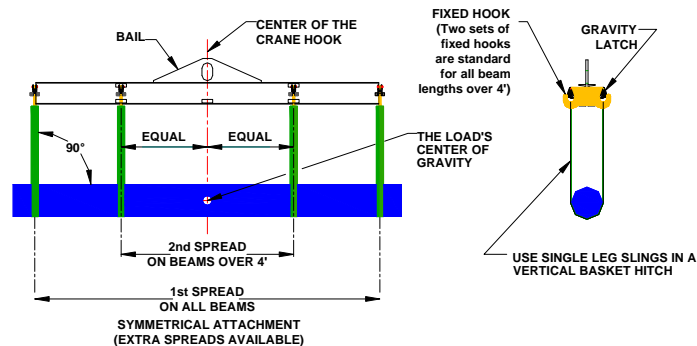

Figure 1
2. See **Figure 1**, Select slings, according to the sling's rated capacity (the rated capacity of the slings must be equal to or greater than the total of the beam weight and the load weight) for a vertical basket hitch.
3. See **Figure 1**, Use **ONLY** symmetrical attachment loading! Attach the slings, one on each of the fixed hooks, in a basket hitch style, and position each sling at equal distance from the center of the bail (may use one pair or multiple pairs of slings).
4. See **Figure 1**, Use **ONLY** a vertical pull! The center of the crane hook must be 90 degrees to the beam.
6. See **Figure 1**, Prevent tilting of the Model 22 Lifting Beam and the load, positioning the load's center of gravity in-line with the center of the crane hook.
8. See **Figure 1**, The Lifting Beam is level/horizontal, the attachment is symmetrical, proper lifting.